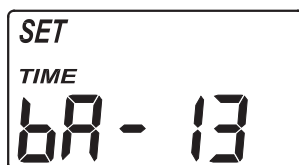

FIG. 28
2. Press the SELECT button four times, so that “SET TIME bA” appears in the display (See Figure 28).